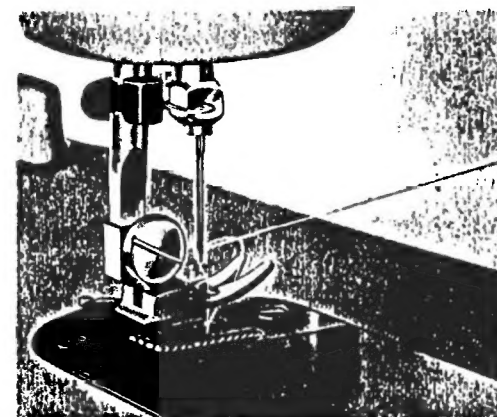

Fig. 13
3. Pull the thread you are holding gently and it will bring up the bobbin thread, as shown in Fig. 13.